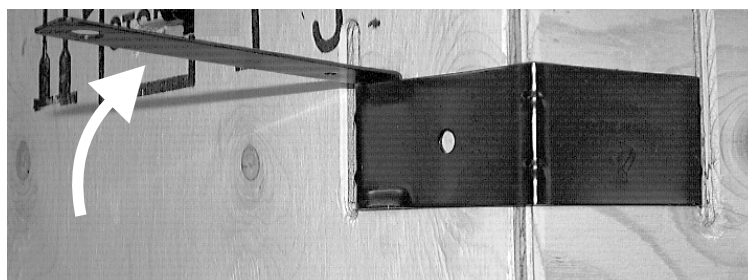

Figure 28: Removing the clips
4. Working from the top downwards, remove the clips from the rigid transport packaging. Push the clip removal tool into the recess on the clip, press against the clip to control movement and lever off (see Figure 28).